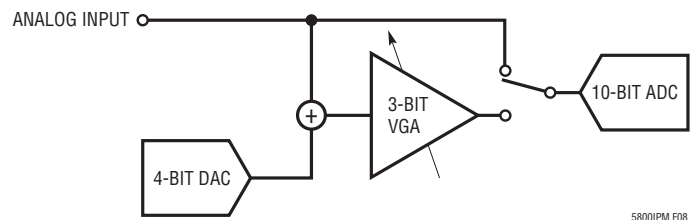

Figure 12. Analog Input Chain
**AI\_0, AI\_1, AI\_2, AI\_3:** Analog Inputs. These pins are multiplexed to the analog input chain. The analog input chain, as shown in Figure 12, is software-configurable and includes a variable-gain amplifier, an offset-DAC for adjusting input range, and a 10b ADC. Valid input range is between 0 to 1.8V. Analog inputs can be sampled as described in the On-Chip Software Development Kit \(On-Chip SDK\).